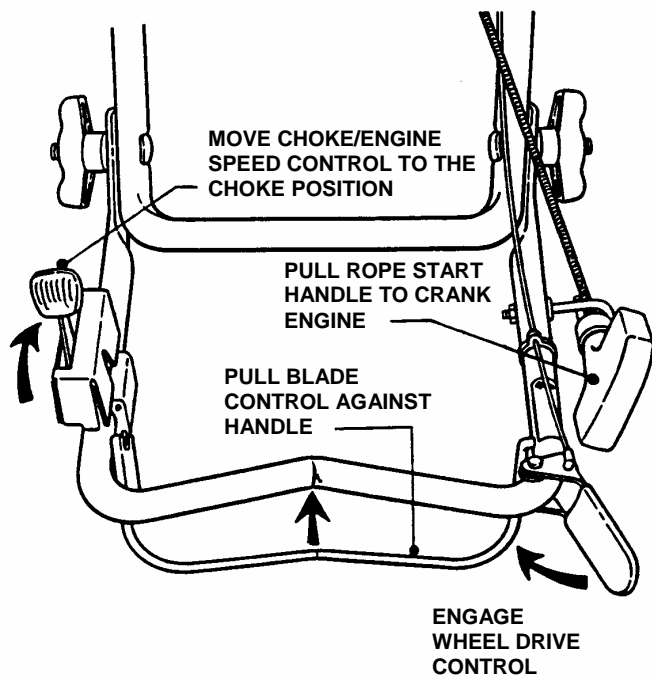

FIGURE 2.4
1. Move engine speed control to the "Choke" position. See Figure 2.4.
3. Move wheel drive control against handle to engage wheel drive and propel mower forward. See Figure 2.4.